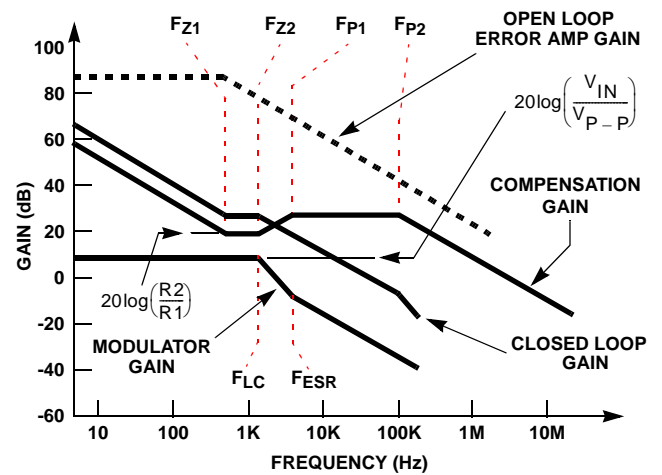

FIGURE 11. ASYMPTOTIC BODE PLOT OF CONVERTER GAIN
Figure 11 shows an asymptotic plot of the DC-DC converter's gain vs. frequency. The actual Modulator Gain has a high gain peak dependent on the quality factor (Q) of the output filter, which is not shown in Figure 11. Using the above guidelines should yield a Compensation Gain similar to the curve plotted. The open loop error amplifier gain bounds the compensation gain. Check the compensation gain at F_{P2} with the capabilities of the error amplifier. The Closed Loop Gain is constructed on the log-log graph of Figure 11 by adding the Modulator Gain (in dB) to the Compensation Gain (in dB). This is equivalent to multiplying the modulator transfer function to the compensation transfer function and plotting the gain.